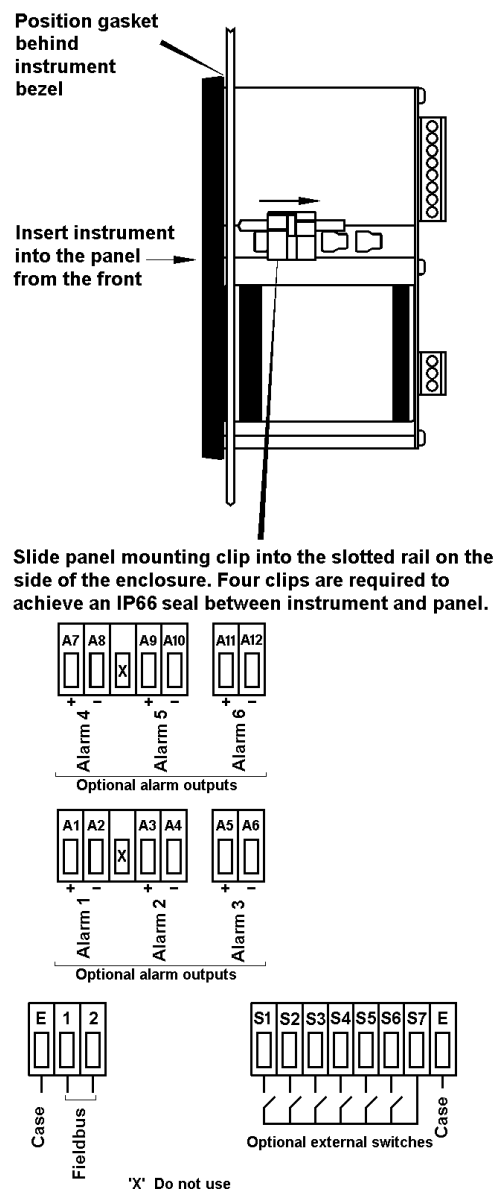

Fig 6 Installation and terminal connections
- Connect the panel wiring to the rear terminal block(s) as shown in Fig 6. To simplify installation, the terminals are removable so that panel wiring can be completed before the instrument is installed.